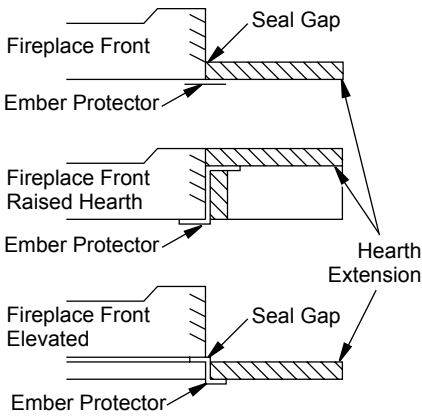

Figure 6 - Hearth Extension
Thermal conductivity "K" of materials can be obtained from manufacturer or supplier of noncombustible material. If hearth extension is to be covered, use noncombustible material such as tile, slate, brick, concrete, metal, glass, marble, stone, etc. Provide a means to prevent hearth extension from shifting and seal gap between fireplace frame and hearth extension with a noncombustible material (see Figure 6).
**WARNING: Hearth extension is to be installed only as shown in Figure 6.**